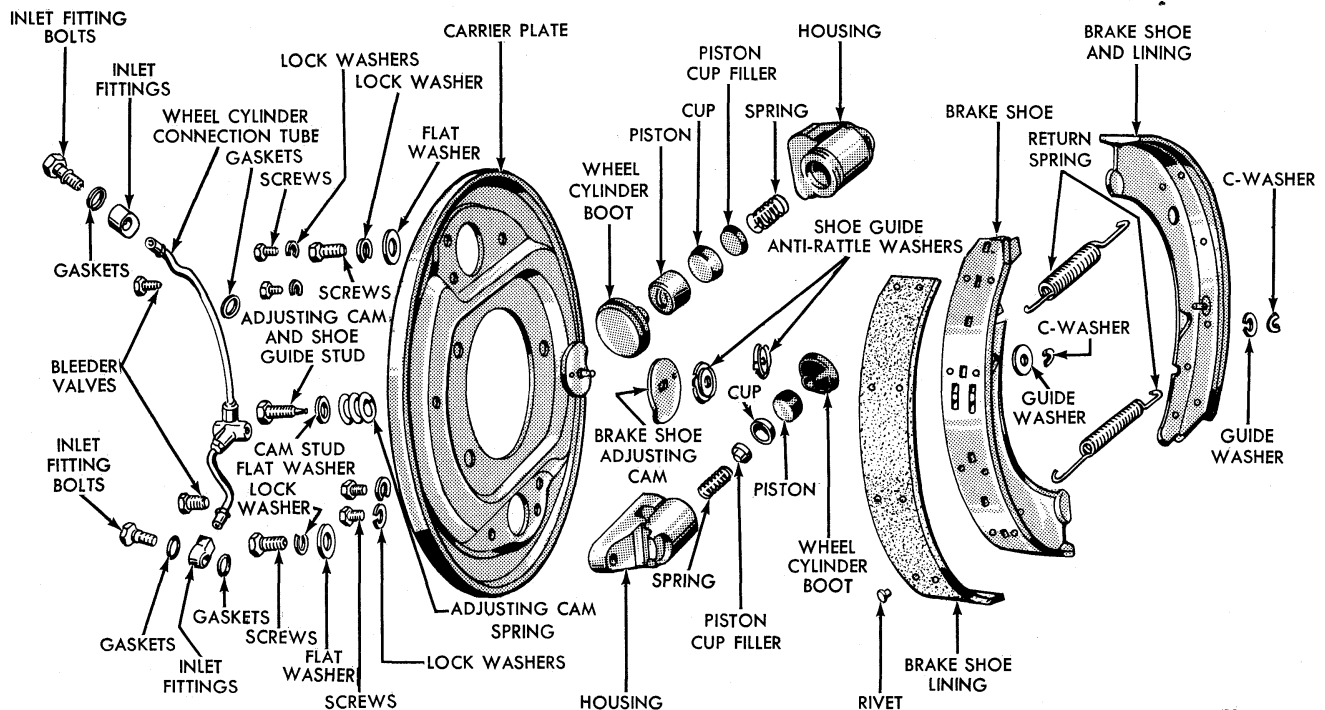

FIG. 13—Two-Cylinder Brake—Front
The front wheels of some trucks are equipped with two cylinders, each having one piston (Fig. 13). The piston in one cylinder exerts force against one end of one shoe; the piston in the other cylinder exerts force against the opposite end of the other shoe.
2. Remove both brake shoe return springs (Fig. 13) using brake spring pliers.
4. After installing both shoes, install the brake shoe return springs (Fig. 13). To install each spring, place